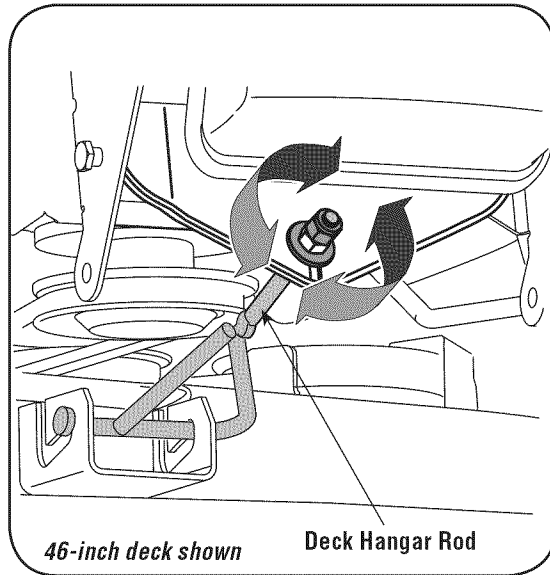

Figure 5-1
3. From the front of the tractor, loosen the hex lock nut on the deck hanger rod, and turn away from the inner hex nuts. See Fig. 5-1.